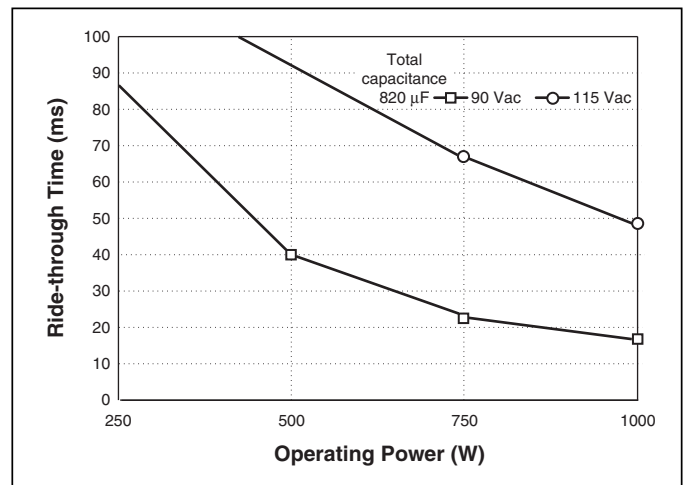

Figure 15 — Ride-through time vs. operating power
**Determining Ride-through Time.** Figure 15 illustrates ride-through time as a function of line voltage and output power, and shows that at a nominal line of 90 Vac, ride-through would be 68 ms. Ride-through time is a function of line voltage.